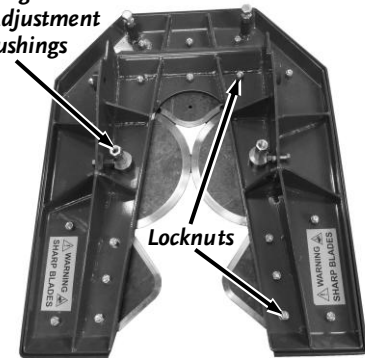

Figure 20
2. Remove the two Coupling Nuts that secure the Front Circular Blades with a 3/4" Wrench (**Figure 20**).